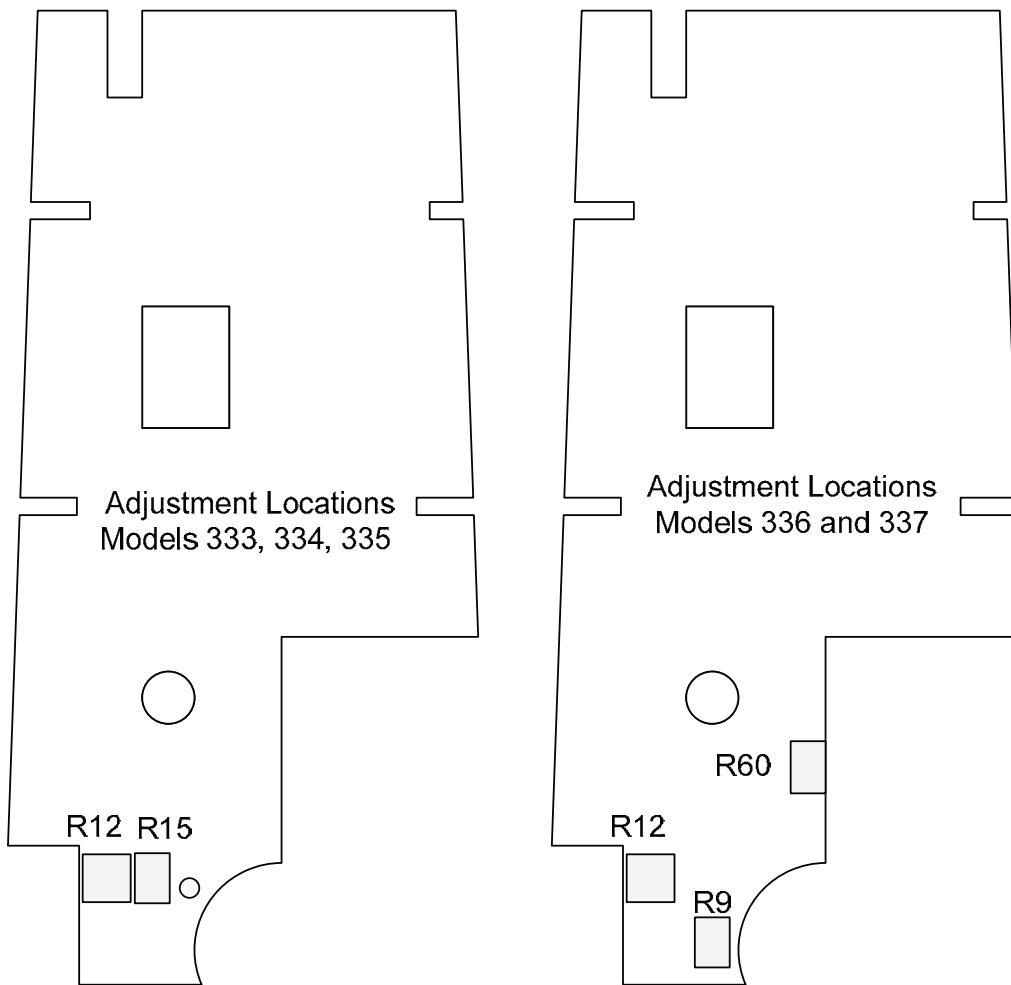

Figure 1. TI adjustment locations.
- (1) Remove the two screws on the bottom of TI and lift off top case.
- (2) Set TI function switch to V~.
- (3) Set calibrator for an output of 600.0 V at a frequency of 50 Hz.
- (4) Adjust **R12** as indicated in figure 1 below until TI reads  $600.0 \pm 1.0$  V (R).
- (2) Set TI function switch to **A $\text{---}$** .
- (3) Adjust **R60** as indicated in figure 1 above until TI reads 0.0A  $\pm$  2.0 A (R).
- (2) Set TI function switch to **A~**.
- (3) Connect calibrator/amplifier to current coil.
- (4) For models 336 and 337, set calibrator for an output of 2.0A at a frequency of 50 Hz. Proceed to step **b** (7).
- (5) For models 333, 334 and 335, set calibrator for an output of 4.0A at a frequency of 50 Hz.
- (6) Adjust **R15** as indicated in figure 1 above until TI reads  $200 \text{ A} \pm 0.5 \text{ A}$ . Proceed to step **b** (9) (R).
- (7) Note measurement with coil wire at top and bottom of TI jaw opening.
- (8) Adjust **R9** as indicated in figure 1 above until difference noted in **b** (7) above is less than 1.0 A (R).
- (9) Set calibrator output to minimum.